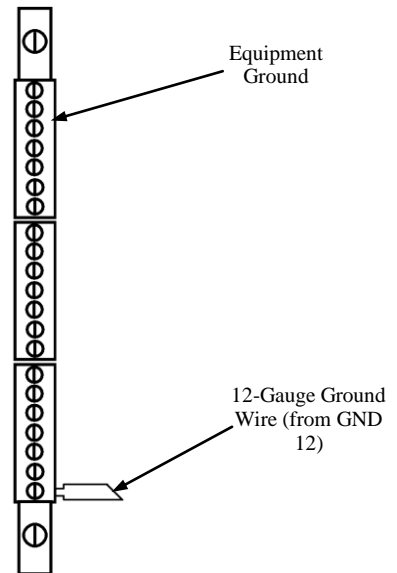
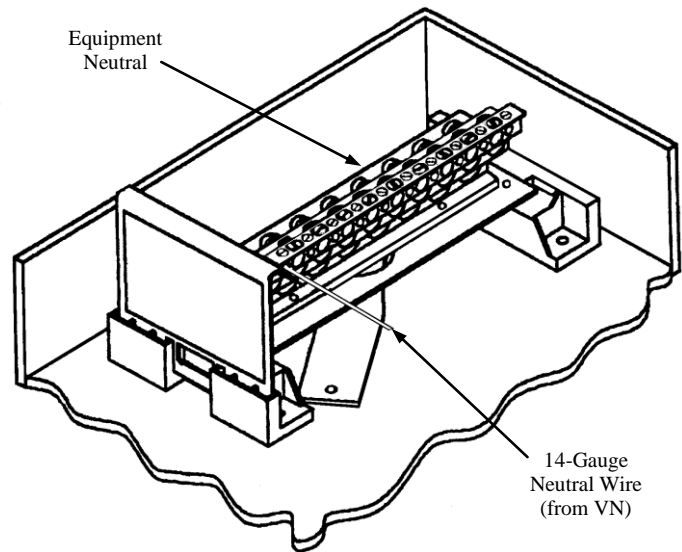

Figure 4. Attach the 12-gauge wire to the equipment ground.
Figure 5. Attach the 14-gauge wire to the equipment neutral.
5. Attach the wire to neutral and ground. Cut and strip the free end of the ground wire and attach to the equipment ground, as shown in Figure 4. Select the lug hole closest to the metering module. Do the same for the neutral (if applicable), as shown in Figure 5. Tighten the screws to the torque levels specified on the component labels.